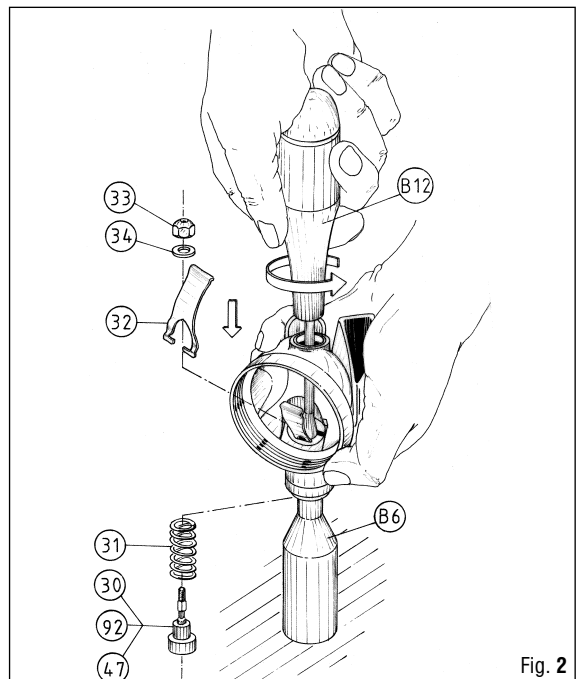

Fig. 2
13. Remove the safety clip (63).
15. Remove the diaphragm retaining ring (78) and the diaphragm (36) from the 2nd stage case (32).
16. Unscrew the case plug (64) using a 6-mm hex wrench (B-8).
17. Remove the O-Ring (171) from the case plug (64).
18. Position the 2nd stage case (32) on the special tool (B-6).
19. Exerting a slight pressure, back off the demand lever adjusting nut (33) using the special tool (B-12), and working through the hole in the 2nd stage case. (Fig. 2).
20. Remove the demand lever adjusting nut (33), the washer (34), the 2nd stage poppet assembly and the spring (31) from the 2nd stage case (32) (Fig. 2)